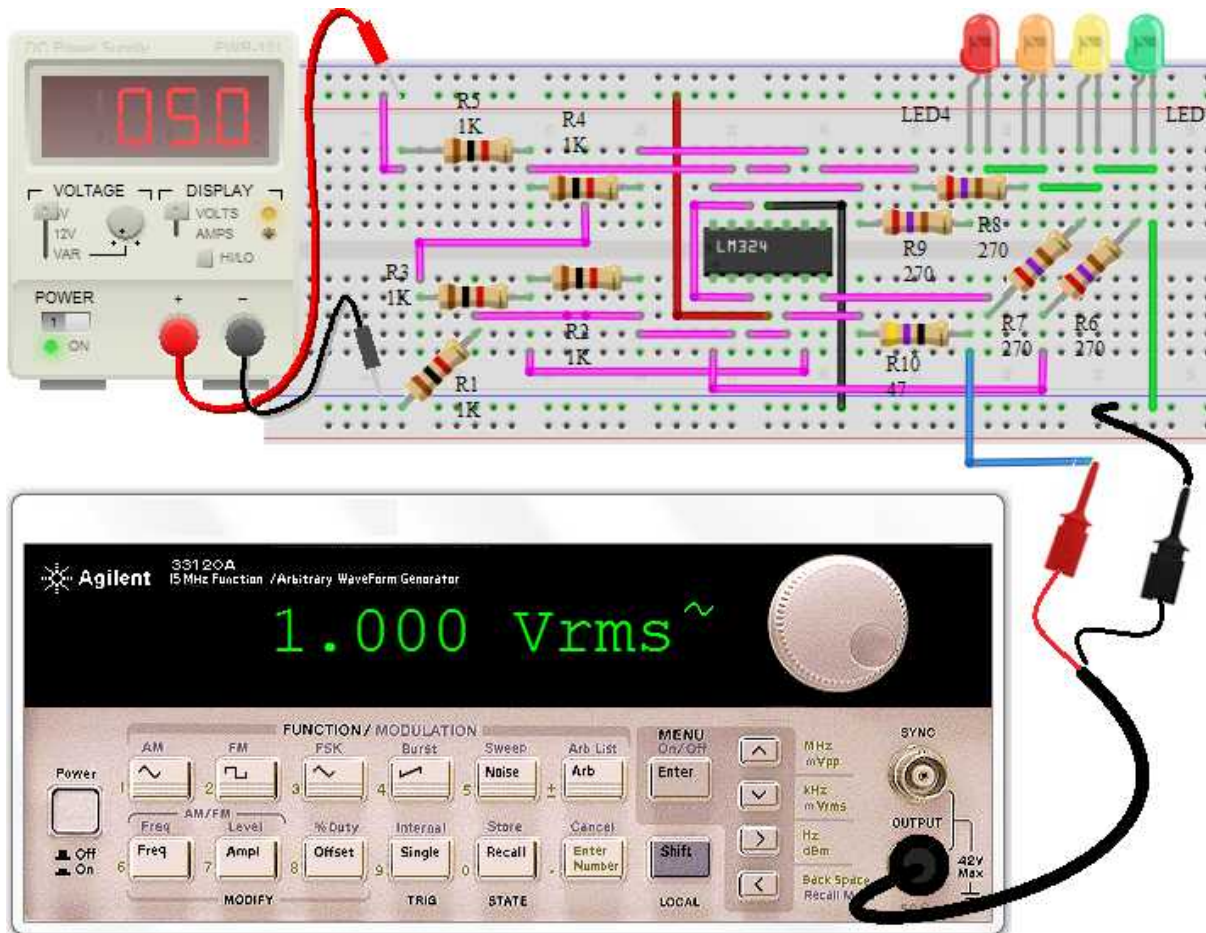

Figure 7-36: Bargraph driver using op-amp comparator circuit connection
1. Set up the circuit as illustrate in figure 7-36 for the 4 segments bargraph display. Use short wiring to make connection on breadboard. Avoid arching wires connection. Make all wiring to be neatly routed and flush to the breadboard surface. Also avoid having wires or components passing over the IC in case it has to be removed. Make sure to identify correctly the pins of IC. VCC is at pin 4 and ground is at pin 11 of 324 IC. Make sure to tie together the negative of the dc supply, input ac source (function generator) with that of the circuit.